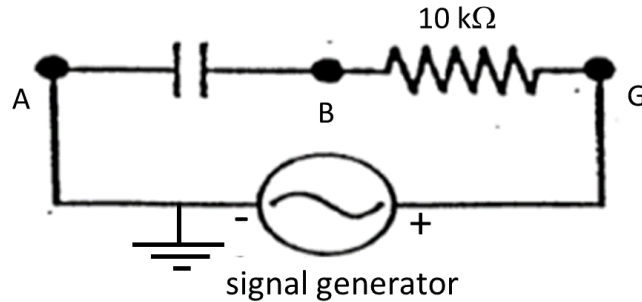

Figure 7.4: RC circuit with a signal generator voltage source.
1. Use the spring module to mount the provided capacitor, the 10 k Ω resistor module and the signal generator to connect the circuit shown in Fig. 7.4. **Note the ground symbol in the figure and always connect all the ground wires (black in colour) to the circuit at the same point.** This RC circuit is similar to the circuits studied in the first part of this lab. The only difference is that the battery (source of constant voltage) has been replaced by a signal generator (source of variable voltage).